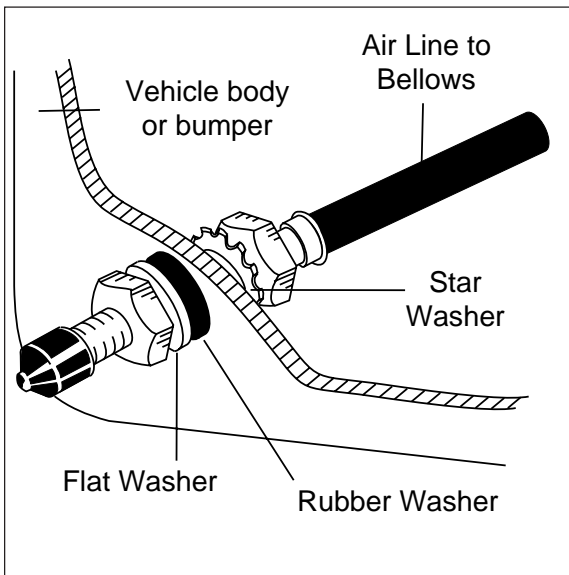

Figure 6
2. Use a standard tube cutter, a razor blade, or very sharp knife to cut the air line. A clean square cut will ensure against leaks. Cut the air line in two equal lengths. Drill 5/16" hole for inflation valve and mount as illustrated. Rubber washer on the outside is for weather seal (Figure 6).